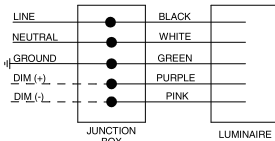

FIGURE 1
3. Remove fixture from packaging along with hardware bag. There are 5 wires coming out of this fixture: (Wiring shown on FIGURE 1)
- (2) Connect the wires as shown in the figure. (FIGURE 1)